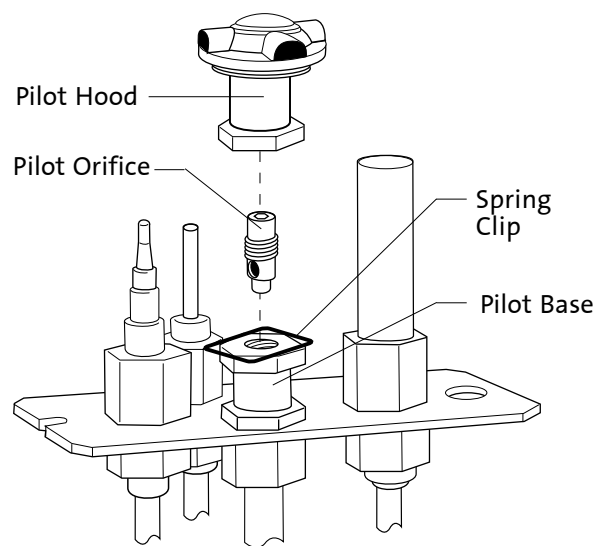

Figure 17. Pilot assembly and orifice.
11. **Change the Pilot Orifice.** From within the firebox, pull the Spring Clip back to release the Pilot Hood from the Pilot Base. Use the 4mm hex key to remove the original Pilot Orifice from the base, (counterclockwise). See fig. 17.